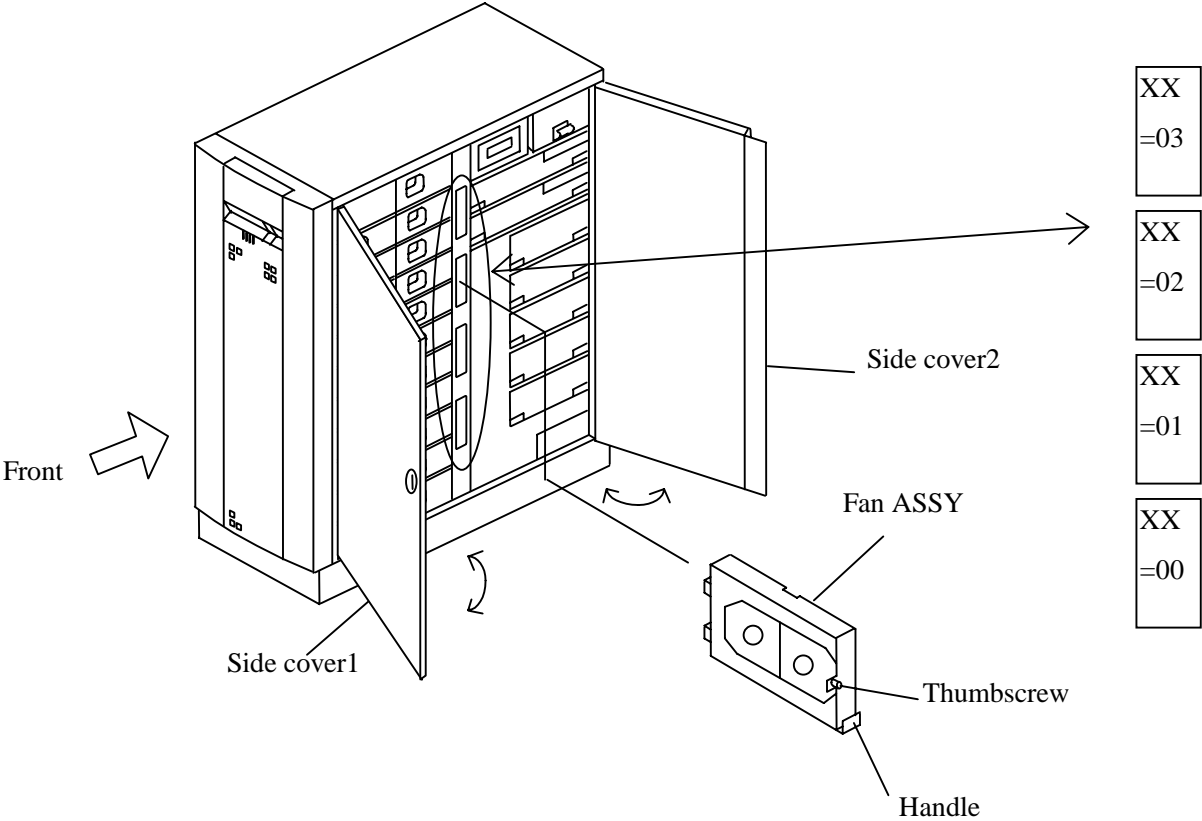

Figure 5. Replacing FAN ASSY
5. Replacing FAN ASSY (See Figure 5.)